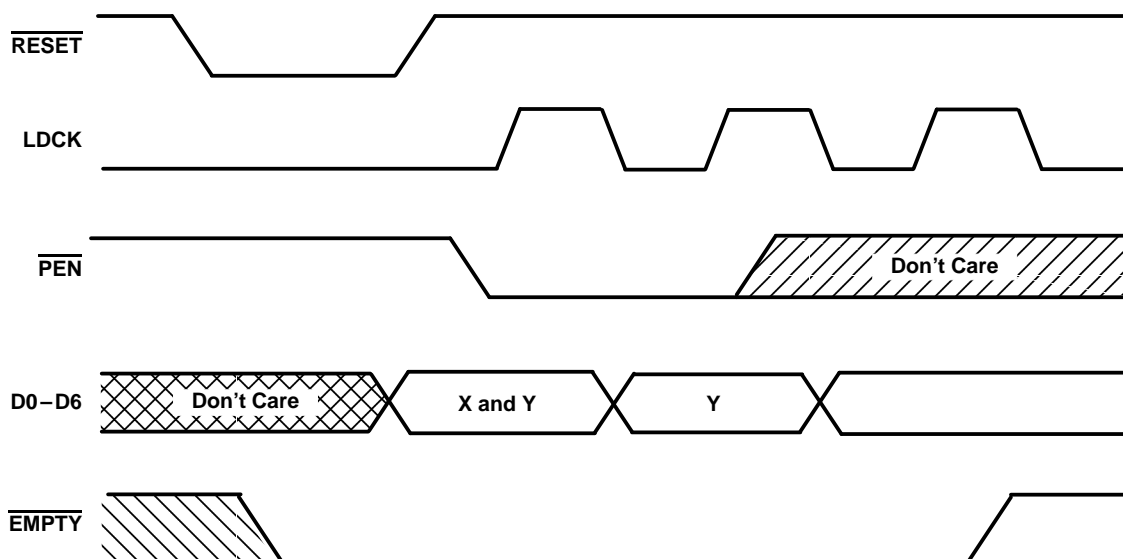

Figure 1. Programming X and Y Separately
To program the offset values, program enable ($\overline{\text{PEN}}$) can be brought low after reset only when LDCK is low. On the following low-to-high transition of LDCK, the binary value on D0–D6 is stored as the almost-empty offset value (X) and the almost-full offset value (Y). Holding $\overline{\text{PEN}}$ low for another low-to-high transition of LDCK reprograms Y to the binary value on D0–D6 at the time of the second LDCK low-to-high transition. Writes to the FIFO memory are disabled while the offsets are programmed. A maximum value of 127 can be programmed for either X or Y (see Figure 1). To use the default values of X = Y = 32, $\overline{\text{PEN}}$ must be held high.